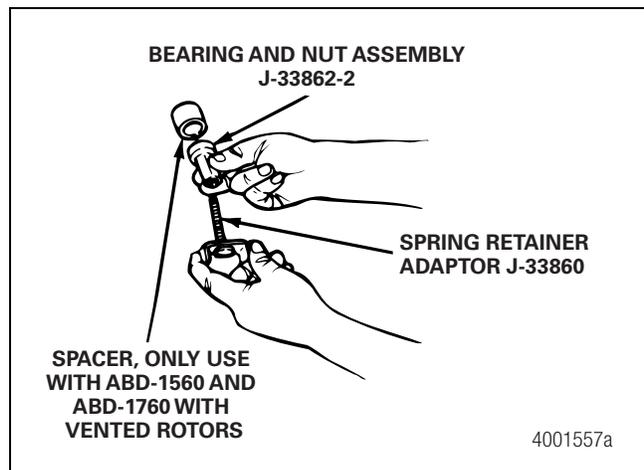

Figure 5.3
4. Assemble the adaptor tool as shown in Figure 5.3. To obtain an adaptor tool, refer to the Service Notes page on the front inside cover of this manual.